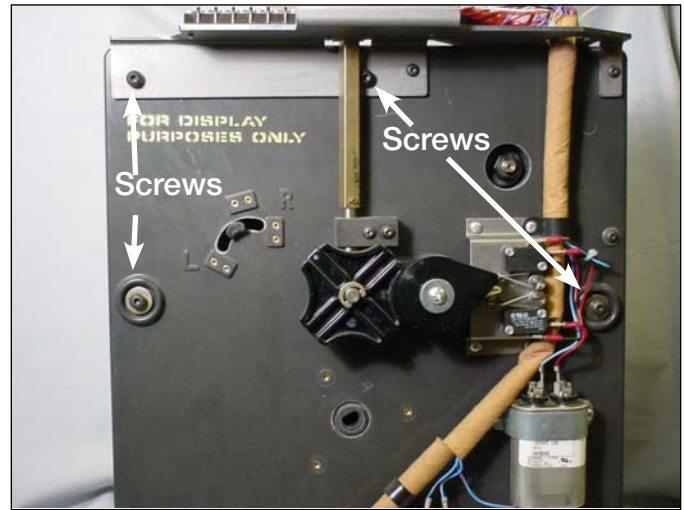

Figure 14.
7. Using a 5/32 Allen wrench loosen and remove the pan head Allen screws fastening the front drive assembly section and the contact panel assembly section together. See Figure 14.